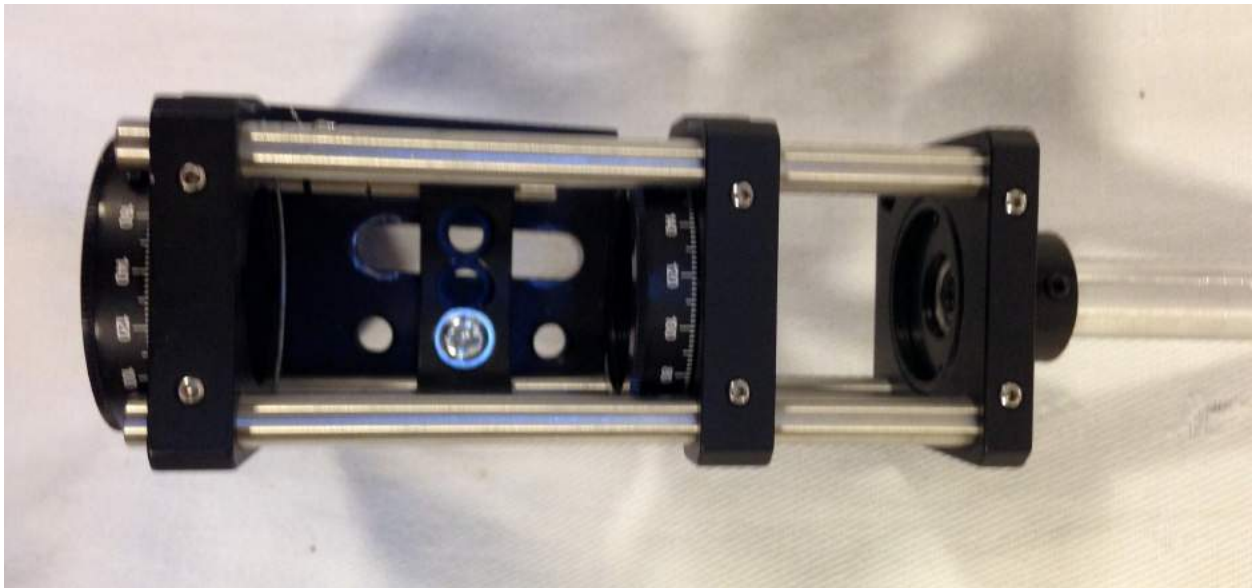

Figure 49: Step 9
9. Thread a 5/8" screw through the leftmost hole in the cage bracket and the corresponding hole on the AB90A. Refer to Figure 49.